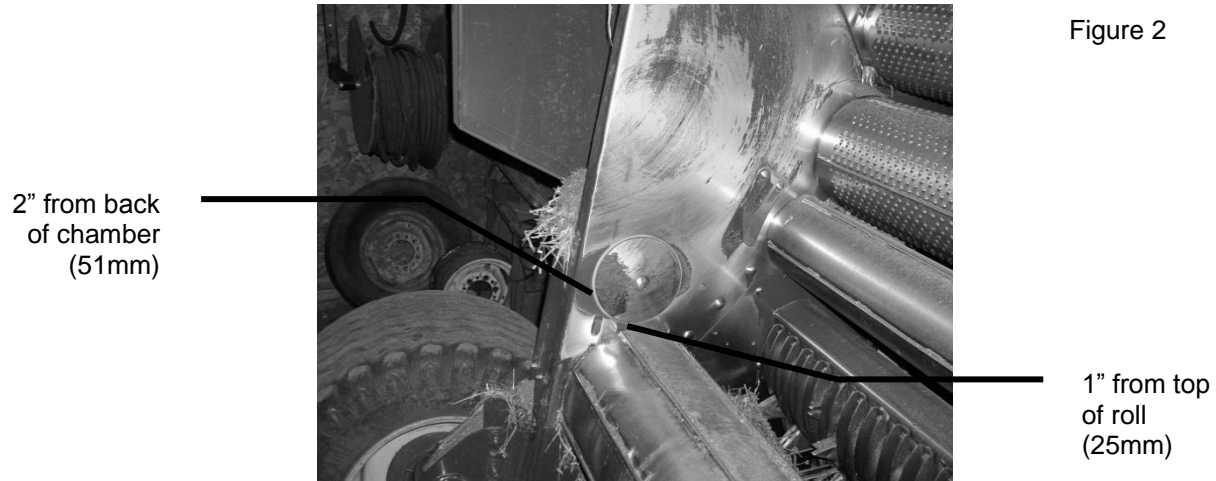

Figure 2
2. If your baler is not equipped with bale shaping pads you will need to drill a hole in the chamber directly behind and above the starting roll. (Figure 2)